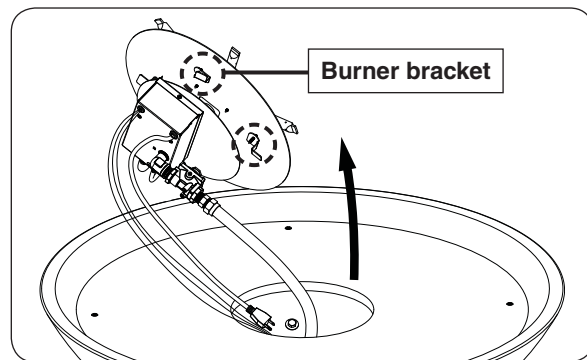

Fig. 45-2 Remove burner assy (if needed)
1. Use a  $\frac{5}{16}$ " nut driver to partially unfasten the four screws found on the burner assembly. Then remove the burner and set it off to the side. See Fig. 45-2.